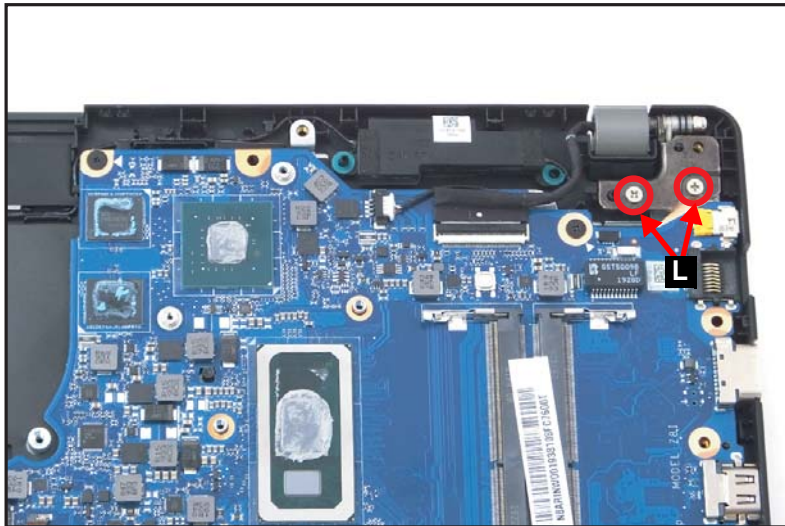

Figure 1-91. Replacing the Mainboard
13. Install and secure two (2) screws (L) to the right side of LCD hinge (Figure 1-91).